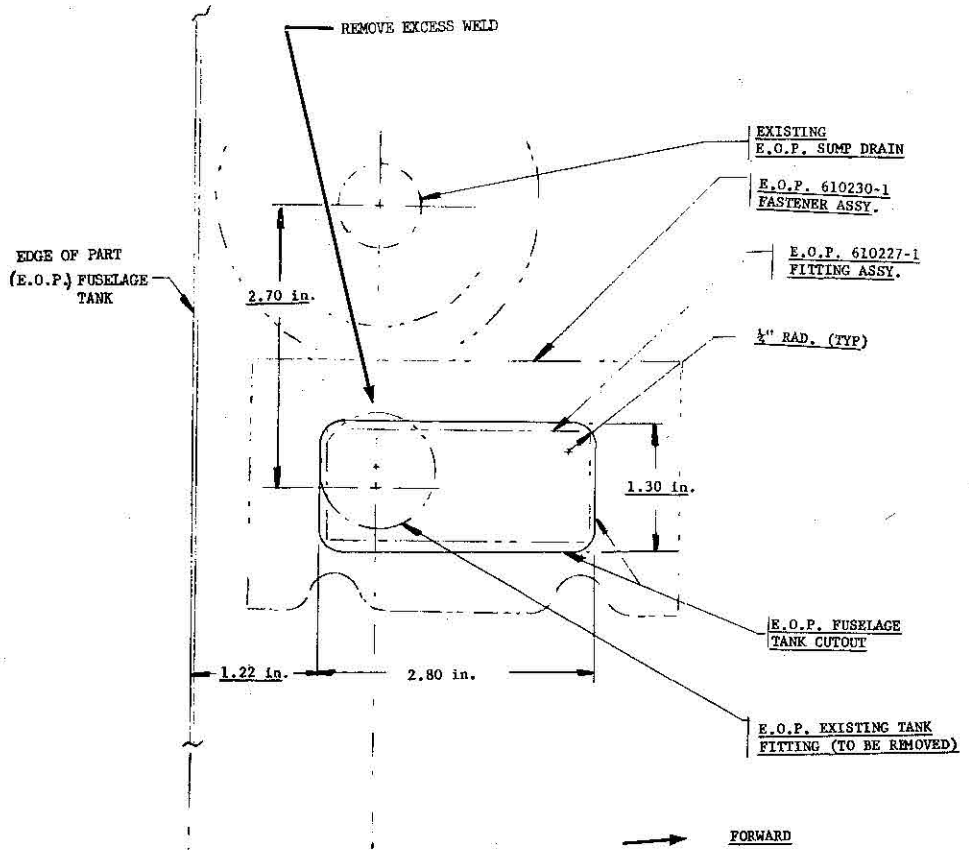

FIGURE 1
1. Remove fitting by cutting 1.30 X 2.80 inch hole as shown on Figure 1.